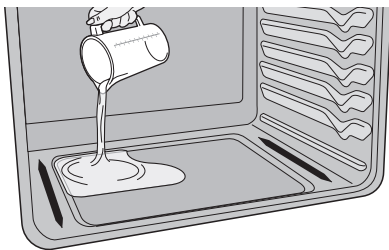

Figure 15: Add 1 cup of tap water
3. Pour 1 cup of tap water onto the oven bottom. (Figure 15) Close oven door.